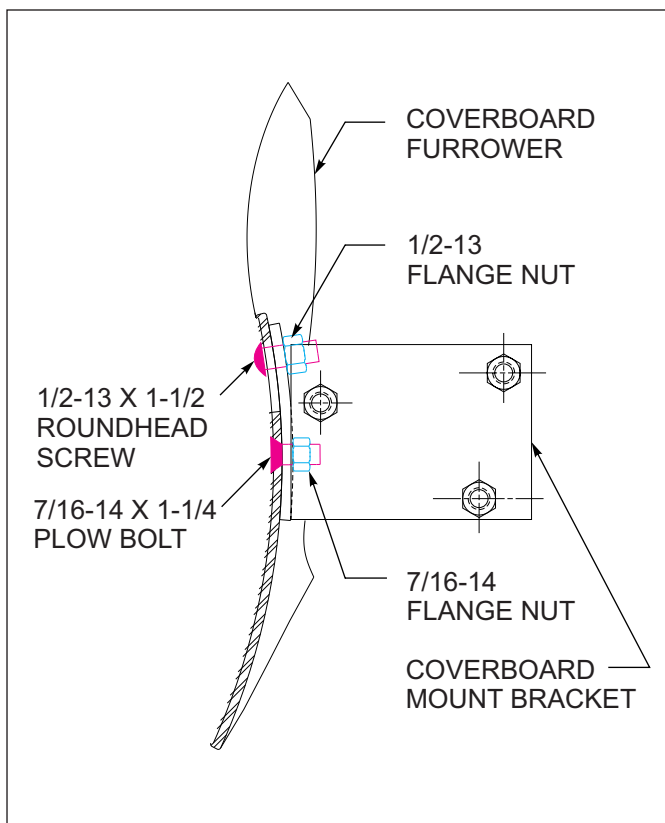

Figure 3-5: Coverboard Installation
2. Tighten the 7/16-14 flange nut to the 7/16-14 x 1-1/4 plow bolt before tightening the 1/2-13 hex nut to the 1/2-13 x 1-1/2 roundhead screw. This is to ensure that the point of the coverboard furrower is pulled tightly against the bracket. Make sure that the plow bolt head is flush with the surface of the coverboard furrower. (See Figure 3-5) This hardware should be tightened now.